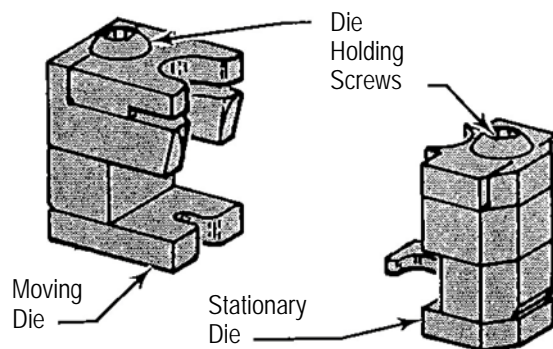

Figure 4
2. The die assemblies have double sets of crimping dies similar to those in hand tools. See Figure 4.